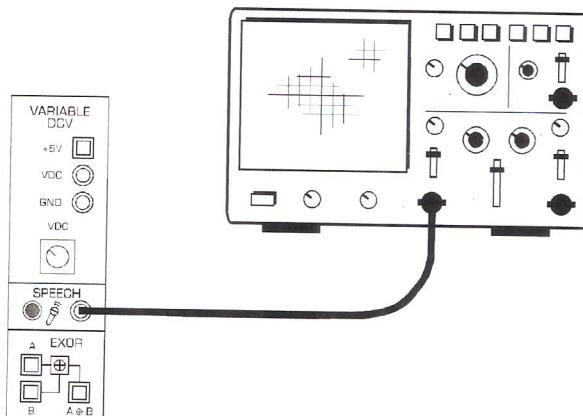

Figure 6
21. Connect the set-up shown in Figure 6 below.